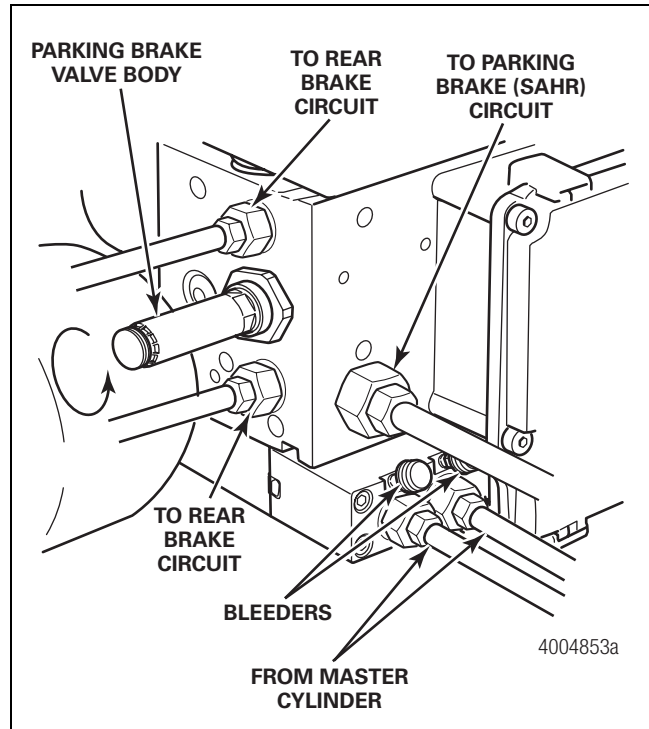

Figure 4.55
10. Use a socket, Snap-On Tools part number A121, to remove the pressure supply valve from the hydraulic compact unit. Figure 4.55.